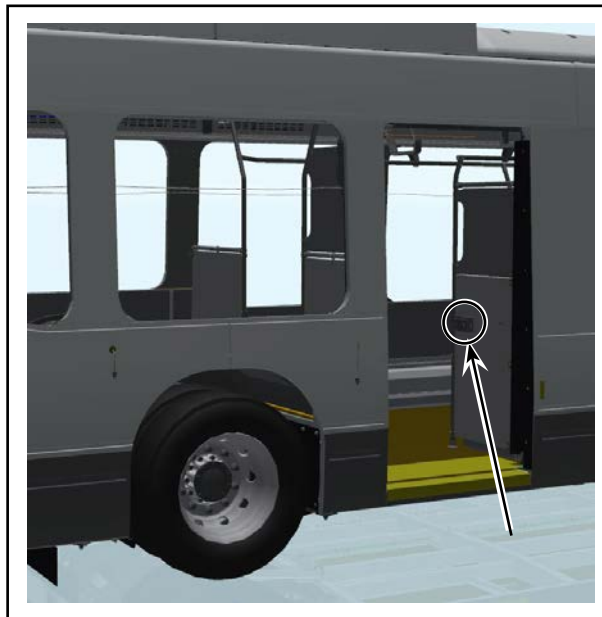

Figure 1 - Passenger Counting Sensor Location
- 1.2. Locate the passenger counting sensor on the partition of the rear passenger door. See Figure 1.